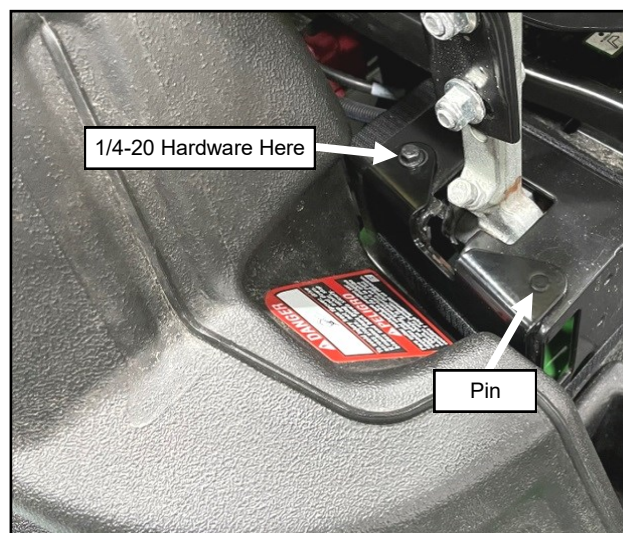

Fig. 1.22 (Install Arm Restrictors, Right)
- 1.22 Install the arm restrictors using 1/4-20 hardware, making sure the locating pin is on the front hole as shown in Figure 1.22.